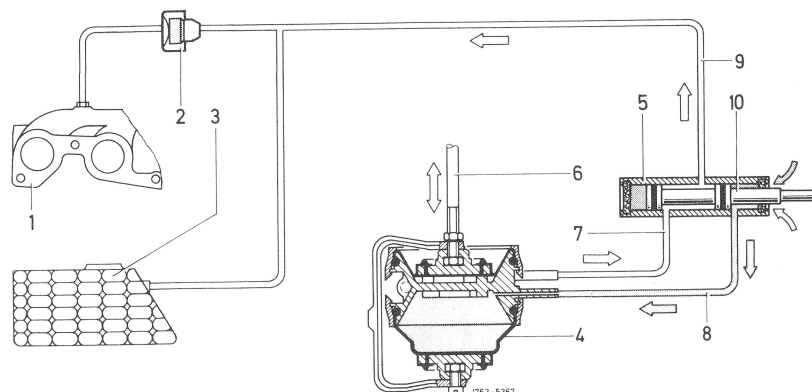
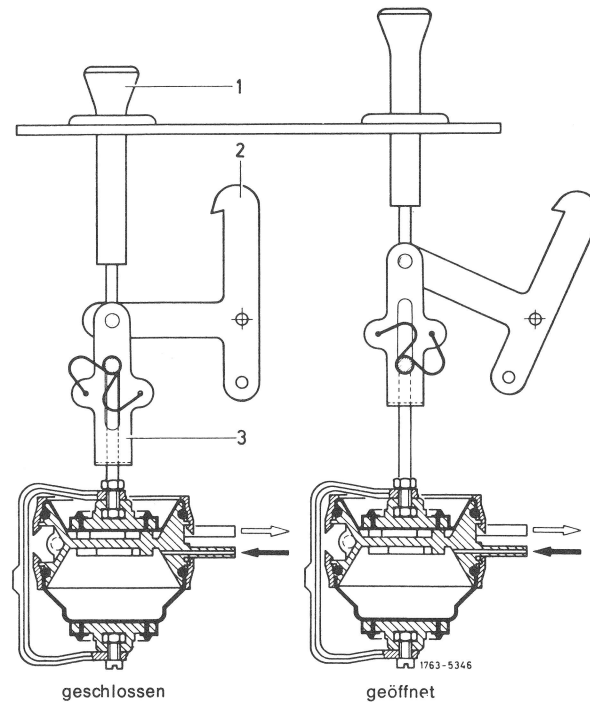

Fig. 1
Fig. 2
When the door safety knob is actuated or the door is opened or locked from outside by means of key, the control valve (10) in vacuum switch (5) will move along; this will establish a vacuum in one chamber of the operating element (4), while the other chamber will be charged with air (Fig. 1). The resulting differential pressure will reverse the direction of operation. The control rods of the diaphragm pistons will engage the door safety knobs of the remaining doors and the interlocking devices of the trunk lid and the flap of the tank filler neck for the desired joint pneumatic operation. For safety reasons, the mechanical actuation of the door safety knob (1) interlock is given priority in relation to vacuum actuation. For this purpose, the control rod is provided with a snap spring mechanism (3) which permits the separate mechanical release of each lock with the central interlocking system engaged. During the next central interlocking step, the snap spring mechanism will return automatically to its starting position (Fig. 2).